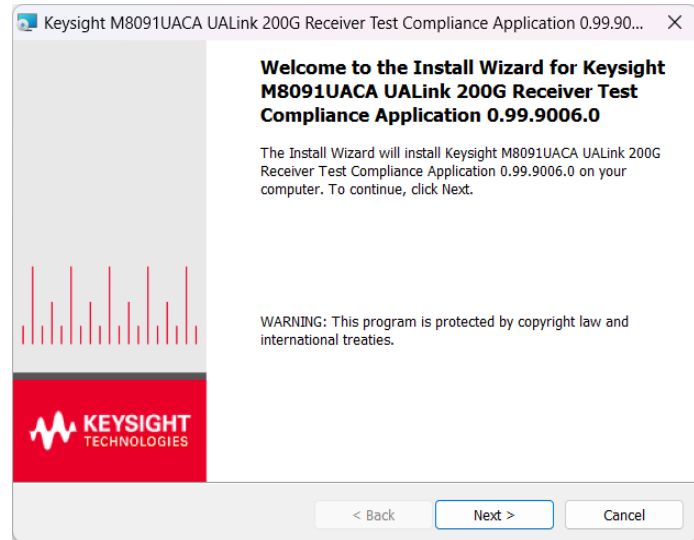

Figure 1 Setup Program for the UALink Receiver Test Compliance Application
- 2 The Setup Program for the Keysight UALink Rx Test Application appears (Figure 1).